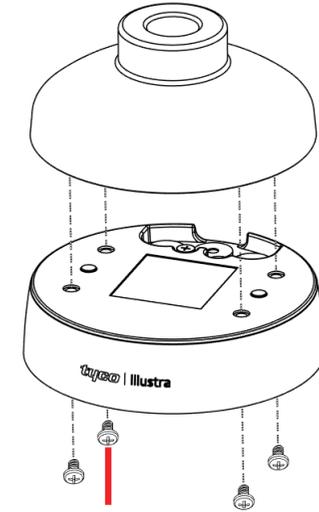

Figure 4
E. Secure the base to the pendant cap with the four M4x8 screws (Fig. 4).